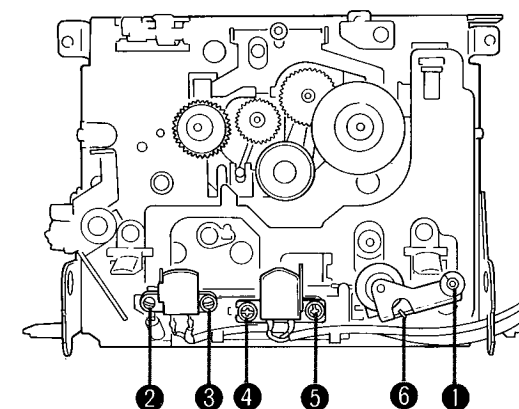

Fig. 12
2. Remove the lock washer 1 in Fig. 12 and remove the actuator of pinch roller spring 6 in Fig. 12 and then pull out the pinch roller.
3. Remove the screws 2 and 3 in Fig. 12 and then remove the erase head.
4. Remove the screws 4 and 5 in Fig. 12 and then remove the record/playback head.
\* Be careful not to lose the spring which are attached to the screws 2 and 4 in Fig. 12. Always adjust the azimuth after replacing the record/playback head. (Refer to alignment procedures)